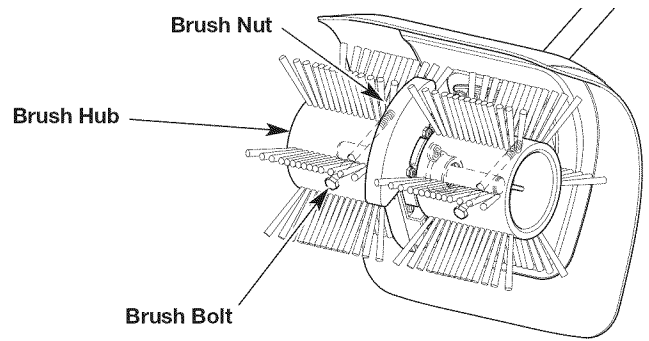

Fig. 5
3. While holding a brush bolt in place with a 1/2 inch wrench, use another 1/2 inch wrench to loosen the corresponding brush nut (Fig. 5).
5. While holding the brush bolt in place with a 1/2 inch wrench, use another 1/2 inch wrench to tighten the corresponding brush nut securely (Fig. 5).